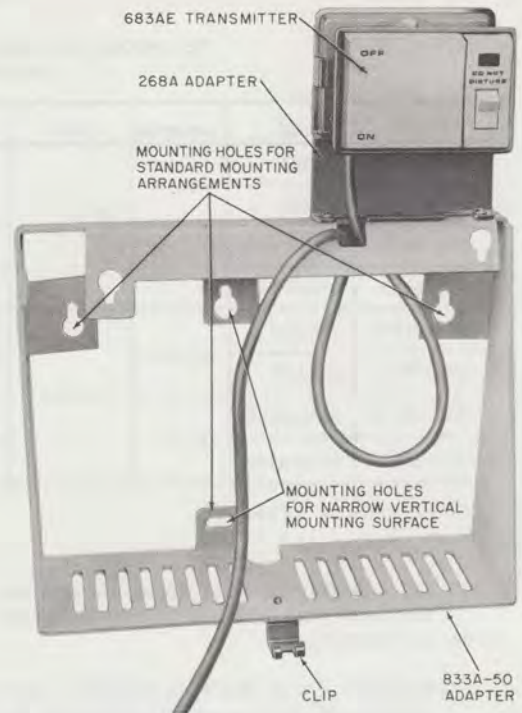
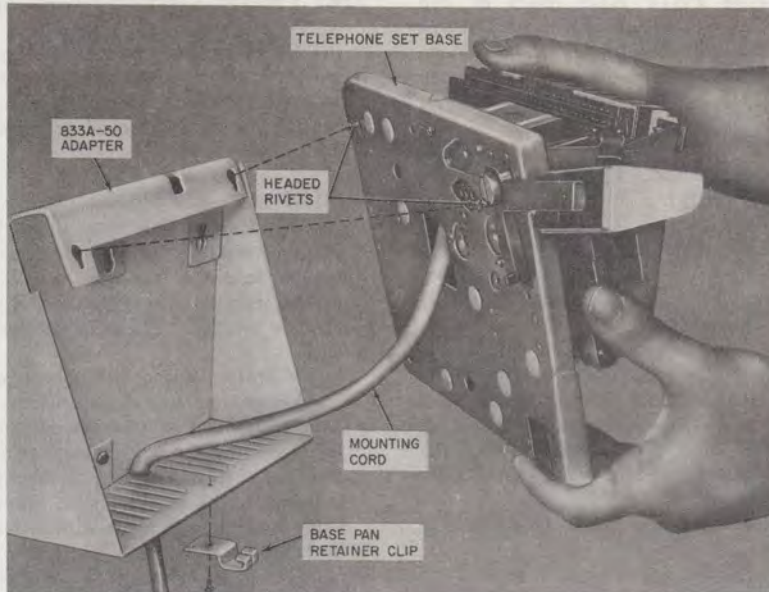

Fig. 3—833A-50 Adapter with 268A Adapter and 683AE Transmitter
Fig. 4—Mounting Telephone Set Base onto 833A-50 Adapter
3.02 All DM and EM (wall type) sets are shipped with an 833A-50 adapter, screw, and clip (Fig. 3) which are used for mounting the telephone set to a vertical surface. Install the 833A-50 adapter and telephone set as follows.
(1) Mount the adapter to the wall or vertical surface as shown in Fig. 3, using appropriate fasteners (Section 080-720-105). If the mounting cord is to be dressed down the wall, it is necessary to pass the cord through the notch in the adapter before final attachment of the adapter to the wall (Fig. 4). If the cabling enters through the wall, the mounting cord may be contained within the adapter.
(2) Remove faceplate and housing from telephone set.
(3) Hang the telephone set on the adapter from the headed rivets that protrude from the base pan (Fig. 4).
(4) Secure the telephone set base with the clip, and screw at the bottom of the adapter (Fig. 3).
(5) Install telephone set options (see paragraph 3.05).
(6) Replace housing and faceplate.
(a) Mount 268A adapter onto 833A-50 adapter with two screws as shown in Fig. 3 with the tabs of the 268A adapter facing outward from the vertical surface. The 683AE-50 transmitter is secured by sliding the transmitter downward between the tabs on the adapter. The telephone set end of the transmitter cord enters the telephone set and is attached to the telephone set base at the small notch on the top edge of the base panel. The excess cord is stored in the 833A-50 adapter.